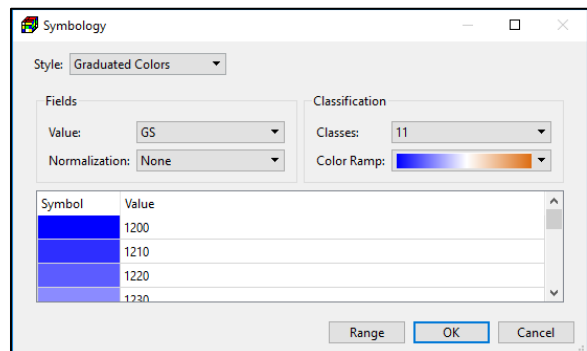

Figure 12. The Symbology dialog box - Graduated Colors
3. **Graduated Colors** (Figure 12): In this style, the quantitative values of a value field are grouped into classes, and each class is identified by a color. A choropleth map can also be displayed by mapping quantitative values, such as concentration, to a color ramp. For example, darker shades of red could be used to represent higher concentration values and lighter shades could be used to represent lower concentration values. The following describes the options available with the Graduated Colors style: